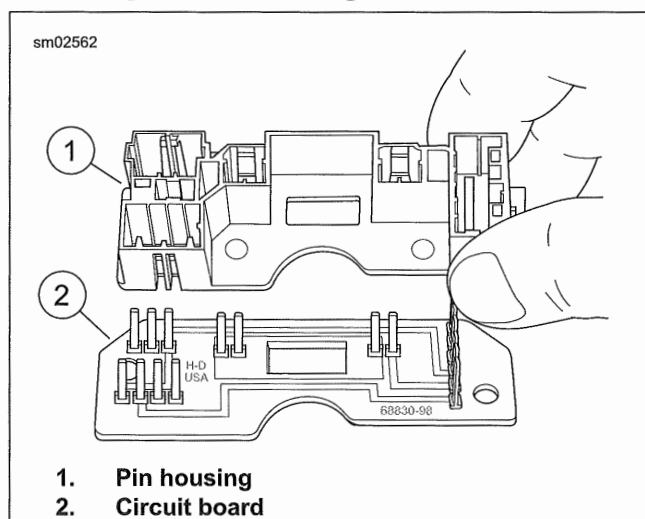

Figure 7-88. Pin Housing and Circuit Board
5. See Figure 7-88. Remove screw, pin housing (1) and circuit board (2).